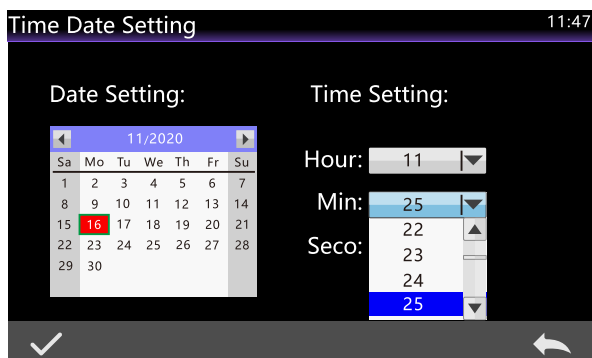

Figure 57 Time Setting Interface
**Time Setting:** Click the check box under "Time Setting", and a drop-down box will pop up. Set the time one by one according to your needs, that is, hour and minute, as shown in Figure 57. After inputting, click the confirm " ✓ " below to save the set time, and click the return " ⬅ " button to cancel saving.